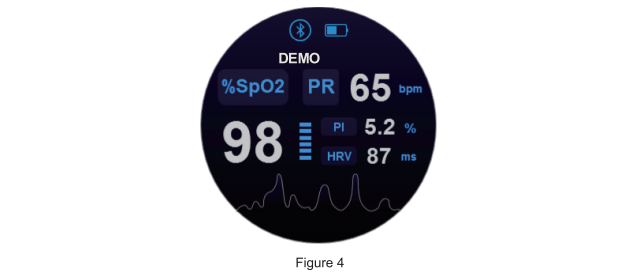

Figure 4
- On the main menu interface, the cursor is displayed at "DEMO", long press the measurement button to enter the "DEMO" interface. Long press the measurement button to exit the demonstration mode and enter the main menu interface. As shown in figure 4.